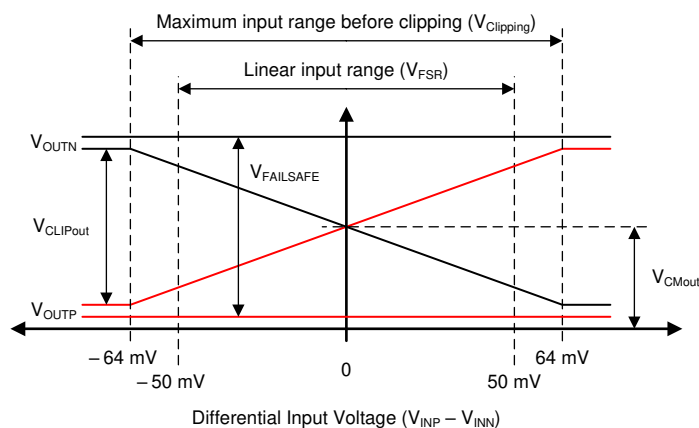

Figure 7-2. Output Behavior of the AMC3302-Q1
The AMC3302-Q1 offers a differential analog output comprised of the OOUTP and OOUTN pins. For differential input voltages ($V_{INP} - V_{INN}$) in the range from -50 mV to 50 mV, the device provides a linear response with a nominal gain of 41. For example, for a differential input voltage of 50 mV, the differential output voltage ($V_{OOUTP} - V_{OOUTN}$) is 2.05 V. At zero input (INP shorted to INN), both pins output the same common-mode output voltage V_{CMOut} , as specified in the Electrical Characteristics table. For absolute differential input voltages greater than 50 mV but less than 64 mV, the differential output voltage continues to increase in magnitude but with reduced linearity performance. The outputs saturate at a differential output voltage of $V_{CLIPOut}$, as shown in Figure 7-2, if the differential input voltage exceeds the $V_{Clipping}$ value.
The AMC3302-Q1 provides a failsafe output that simplifies diagnostics on system level. Figure 7-2 shows the failsafe mode, in which the AMC3302-Q1 outputs a negative differential output voltage that does not occur under normal operating conditions. The failsafe output is active in two cases:
- The low-side does not receive data from the high-side (for example, because of a loss of power on the high side). In this case, the amplifier outputs are driven to the V_{FAILSAFE} value, see Figure 7-2.
- The high-side DC/DC output voltage (DCDC_OUT) or the high-side LDO output voltage (HLDO_OUT) drop below their respective undervoltage detection thresholds (brown-out). In this case, the low-side may still receive data from the high-side but the data may not be valid. The amplifier outputs are driven to V_{FAILSAFE} value, see Figure 7-2.